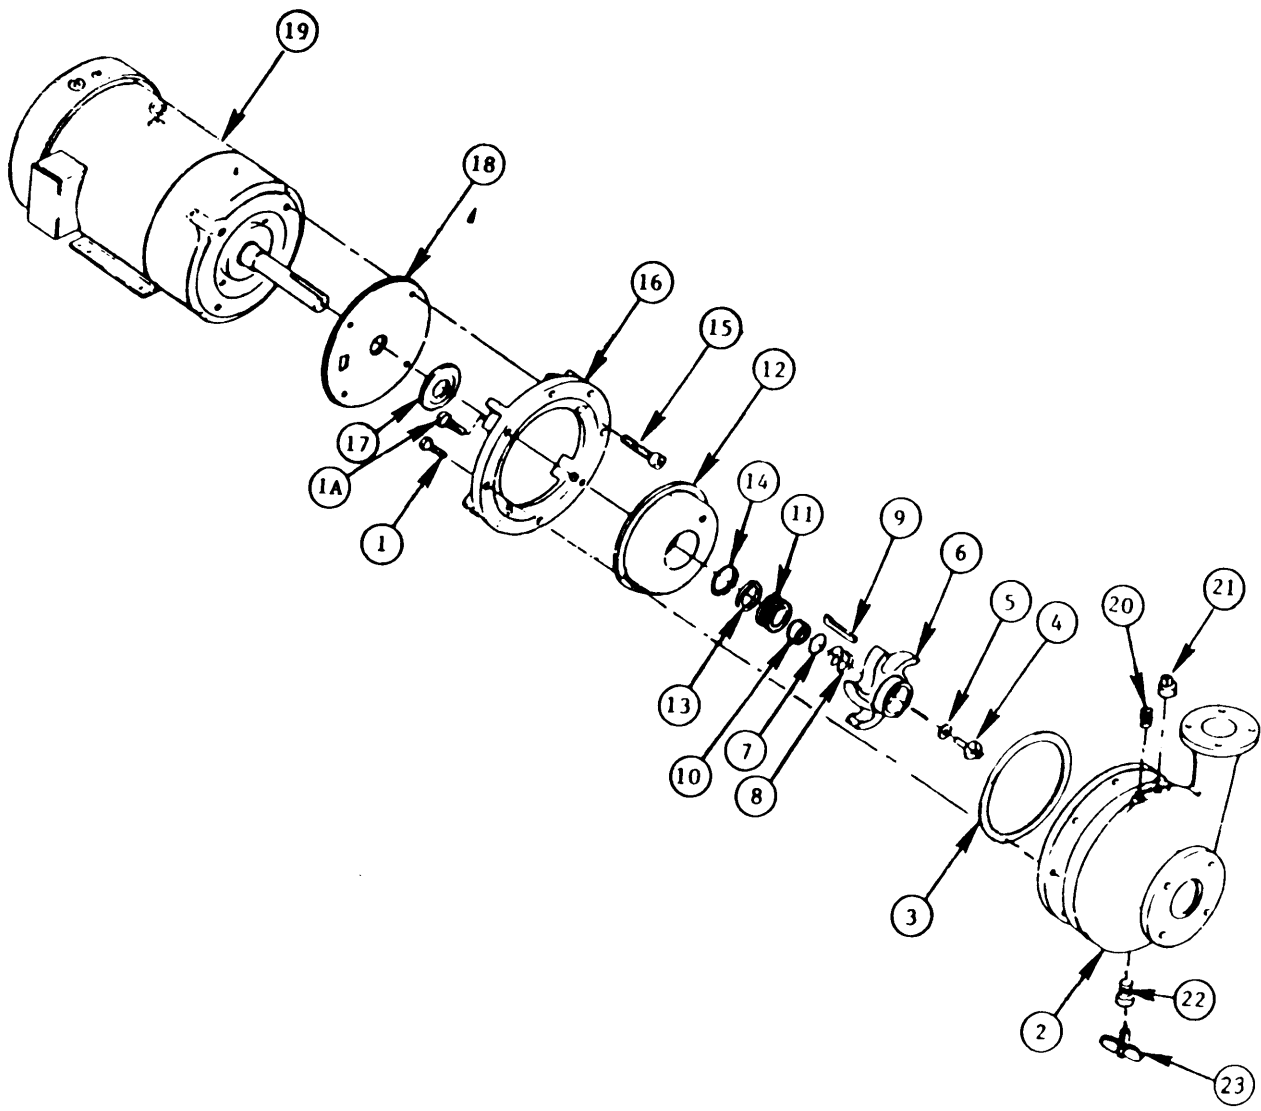

Figure 3-37. Backwash Pump
b. Disassembly. (Figure 3-37)
(1) Replace all gaskets, O-rings, slinger, and soft parts.
(2) Replace all damaged nuts, bolts, screws, washers, shaft keys, impeller bolt, and shaft sleeve.
(3) Retap threads in pump casing or adapter, recut priming plug threads, or replace damaged and unrepairable component parts.
(4) Replace damaged or fractured spring.
(5) Replace unrepairable pump impeller.
(6) Repair or replace damaged adapter, adapter cover, and splash plate.
(7) Repair pump motor in accordance with paragraph 3-13.
f. Reassembly. (Figure 3-37)
- (1) Install two priming plugs (20) and (21), adapter (22), and petcock (23) in pump casing (2).
- (2) Hold splash plate (18), slinger (17), and adapter (16) in place on motor (19) and align mounting holes.
- (3) Install four bolts (15) through adapter (16), splash plate (18), and motor (19).